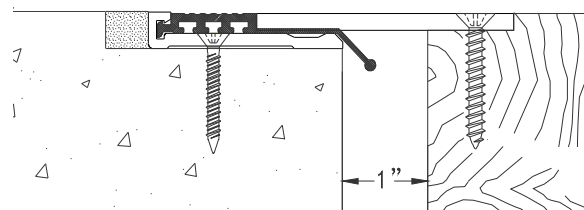

Figure 10
STEP 12. Place the cover plate back into its installed position and attach the cover plate to the base member using the fasteners provided by the factory (see Figure 10). Repeat the procedure in Step 9 through Step 12 for each section of the cover plate.